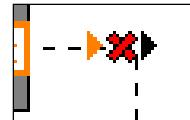

Figure 13. A broken wire.
- iii) Frequently, a wire may become “broken”. This is usually marked by an “X” on the broken wires as shown in Figure 13. This means that the broken wire that has one unattached end. To remove all broken-wires in the “Block-diagram” window, press **[CTRL-B]**.